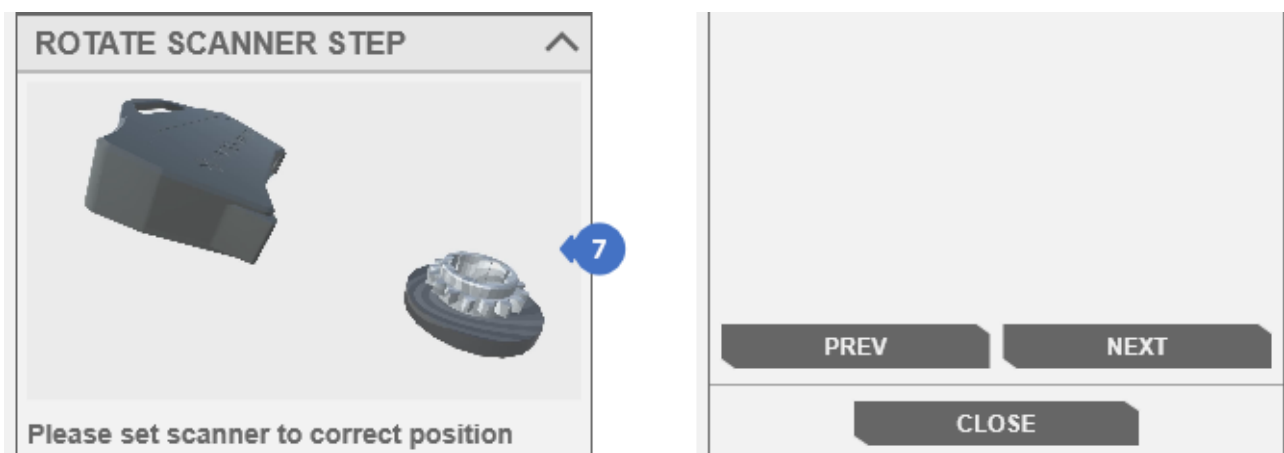

Figure 233. Setting the scanner in the correct position – directing the scanner to the object
The next step is the selection of the exposure on cameras (*CAMERAS EXPOSURE*) (11). The default mode is *Auto* (B) (Figure 233). The user can also change the mode to *Manual* (A) (Figure 234) to manually adjust the exposure and the projector brightness (*PROJECTOR BRIGHTNESS*) (12). The entire process of using the controls is presented in the animation (10) in *BRIGHTNESS AND EXPOSURE* depending on the selected mode.